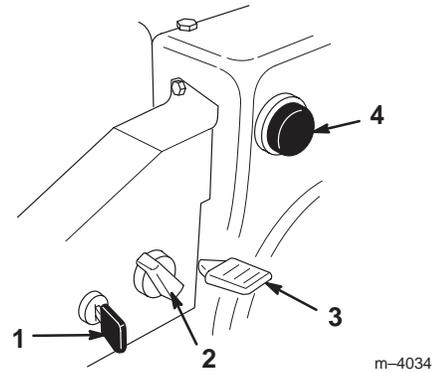

Figure 20
- **Ignition Switch** (Fig. 20)—Insert the key before starting the engine. To stop the engine, remove the key.
- **Choke** (Fig. 20)—Rotate the choke clockwise to the **On** position to start a cold engine. As engine warms up, gradually rotate the choke counterclockwise to the **Off** position.
- **Throttle** (Fig. 20)—Move the throttle upward to increase the engine speed; move it downward to decrease the engine speed. Move the throttle to the **Stop** position to stop the engine.
- **Primer** (Fig. 20)—Press the primer to pump a small amount of gasoline into the engine for improved cold-weather starting.
2. Remove the key from the ignition switch (Fig. 20).
3. Pull the choke knob off (Fig. 20).
5. Rotate the choke (Fig. 20) to the **On** position.
6. Insert the ignition key (Fig. 20).
7. Cover the hole in the center of the primer (Fig. 20) with your thumb and push in the primer 3 times, pausing a moment between pushes.
- After the engine starts, immediately rotate the choke (Fig. 20) to the 3/4 position. As the engine warms up, rotate the choke to the 1/2 position. When the engine warms up sufficiently, rotate the choke to the **Off** position.